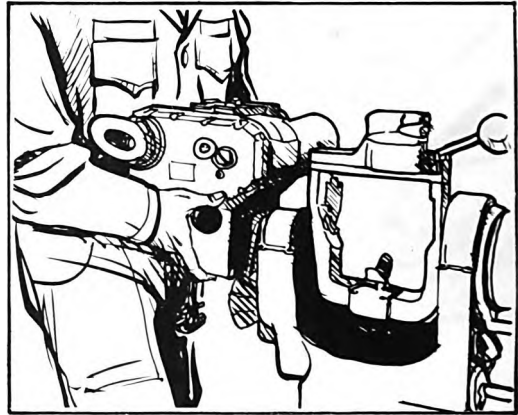

Figure 9. Alinement of sight and boresight plate.
- b. With the latch assembly all the way down, aline the top of the sight mounting bracket over the top of the boresight plate and lower the sight into position against the boresight plate (figure 9).